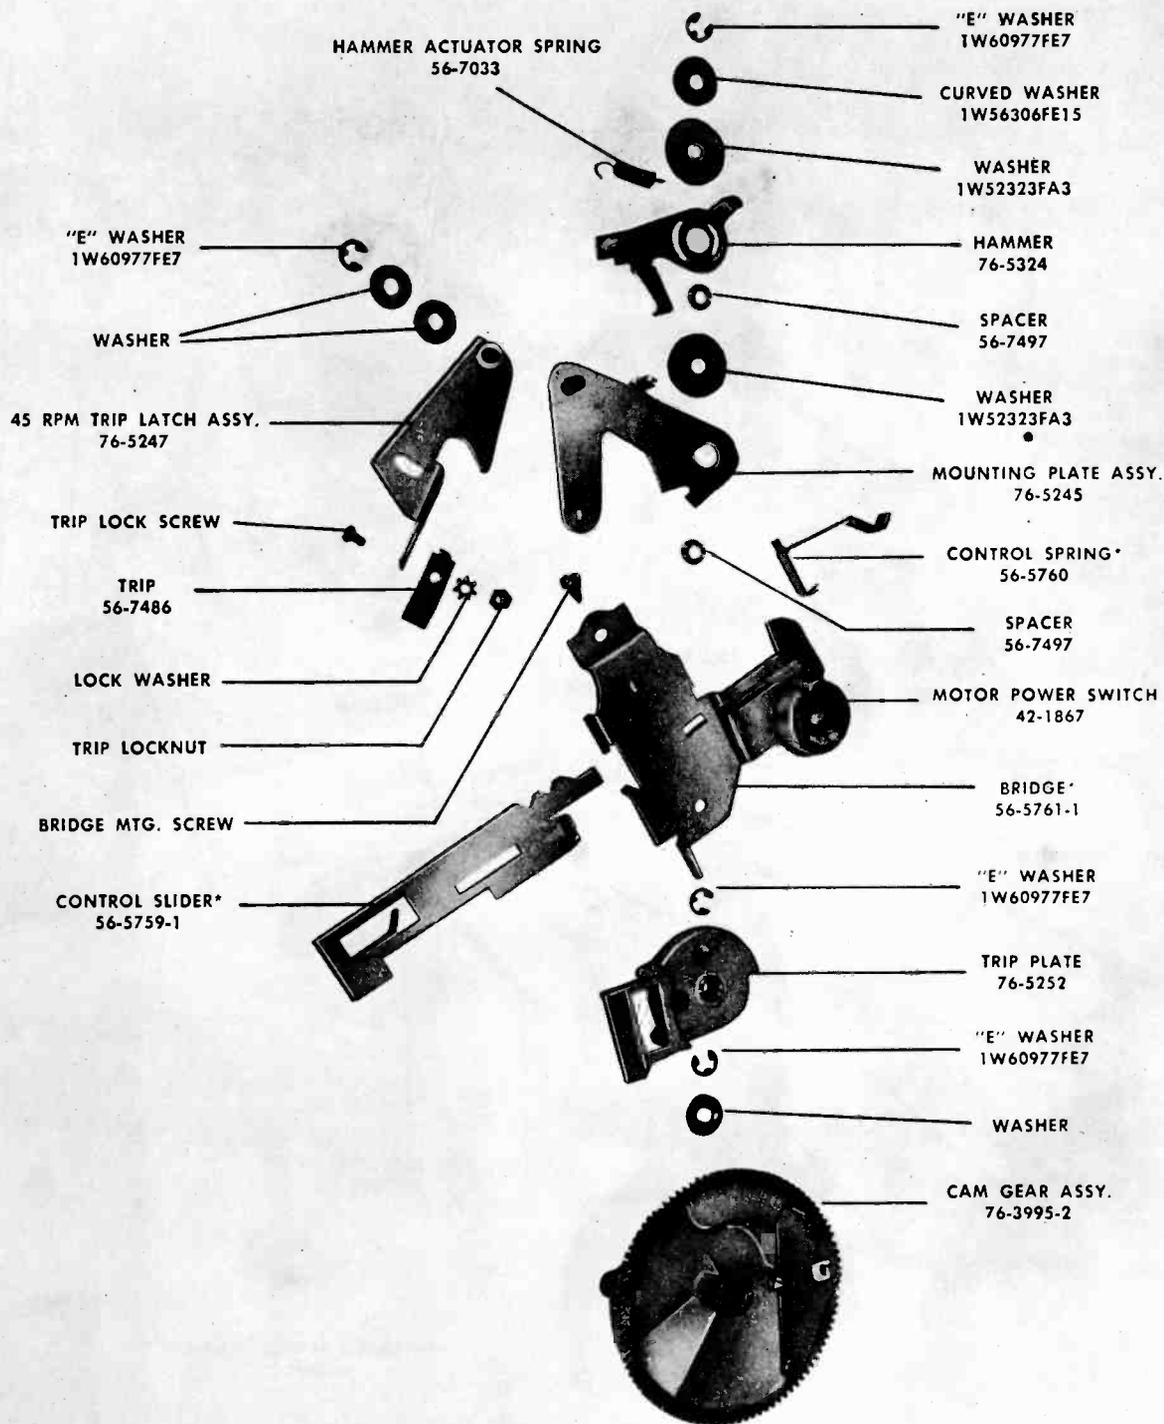

FIGURE 18. CAM-GEAR AND BRIDGE ASSEMBLIES (BRIDGE ASSEMBLY PARTS ARE IDENTIFIED BY \*)
- Lift bridge off, and disengage control link from slider control bar. See figure 18.
- Slide cam gear from spindle. Figure 18 shows cam-gear assembly.